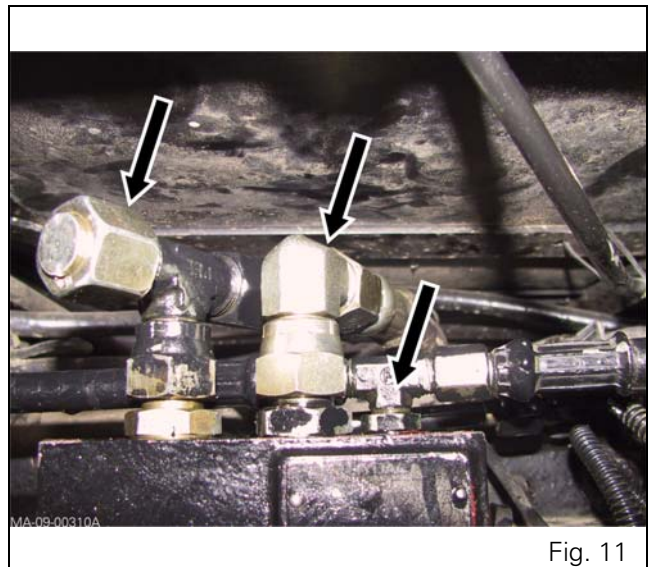

Fig. 11
9. Disconnect and block off the hydraulic unions on the block (17) (Fig. 11).